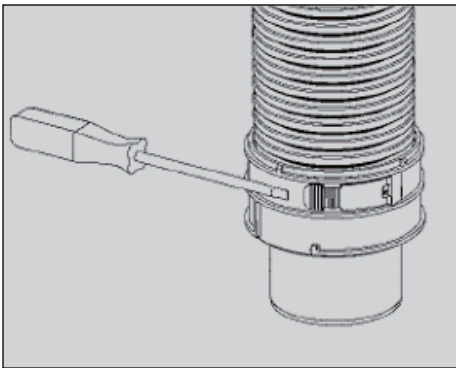

Figure 6, Loosening the Latching Tabs
7. It is possible to loosen the latching tabs with a screw driver, see **Figure 6**.